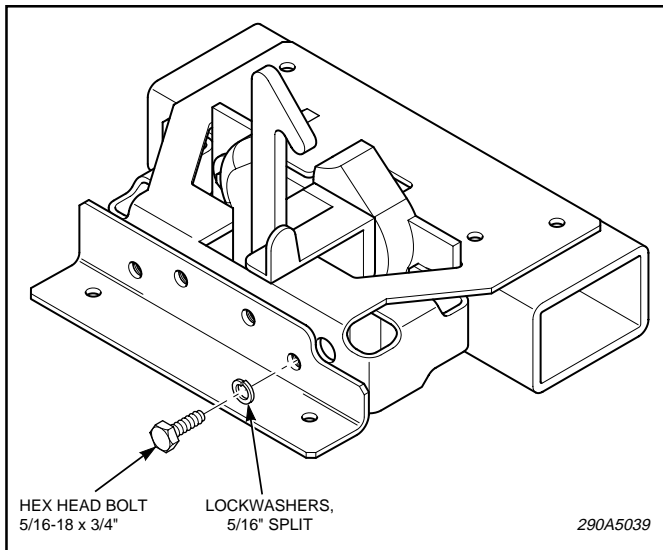

Figure 4.
h. Attach the front bracket (8650108) to the main bracket (8567153) using four 5/16-18 bolts and split lockwashers. See figure 4.